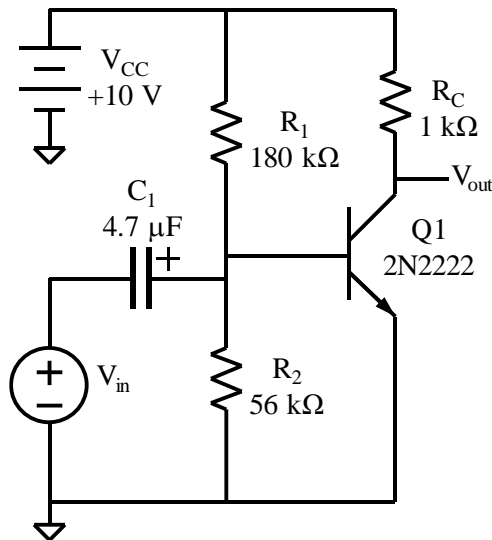

Fig. 1. Common-emitter amplifier without emitter resistor.
The CE amplifier in Fig. 1 has no emitter degeneration resistor. The resulting dc bias circuit quiescent point (Q-point) that is sensitive to β variation. However, it has high ac voltage gain. The function generator's signal is connected to the base through a dc blocking capacitor. The second CE amplifier in Fig. 2 has an emitter resistor, which makes the Q-point much less sensitive to β variation. But, the gain is much lower than that of the first circuit. The third circuit uses a capacitor to "bypass" the emitter resistor for ac signals, increasing the gain. The capacitor does not affect the dc bias circuit, so the Q-point is the same as for the second circuit.
1. For the three amplifier circuits in Figs. 1, 2, 3, and 4:
2. Consider the circuit in Fig. 1.
CE, no R_E , Fig. 1